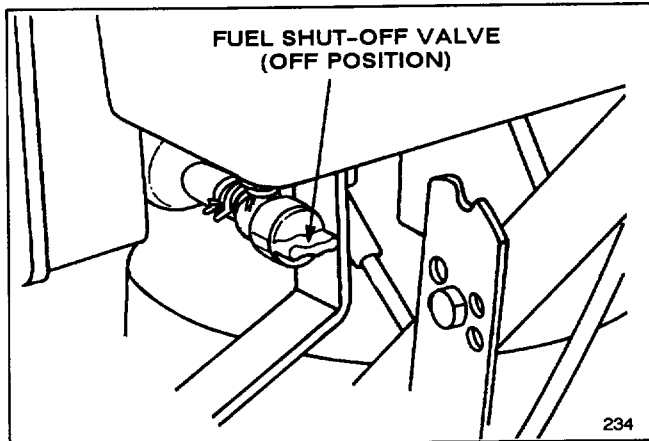

Figure 11
2. Turn fuel shut-off valve to OFF position (Fig. 11).